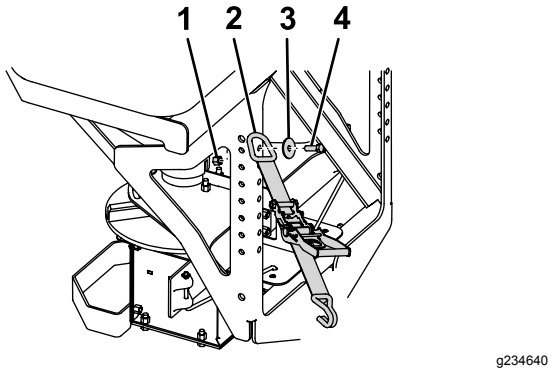

Figure 6
1. Attach the D-ring end of the ratchet straps to the upper holes on the outside of the spreader frame using a bolt (1/2 inch), washer (1/2 inch), and locknut (1/2 inch) and torque the bolts to 76 Nm (56 ft-lb) as shown in Figure 6.